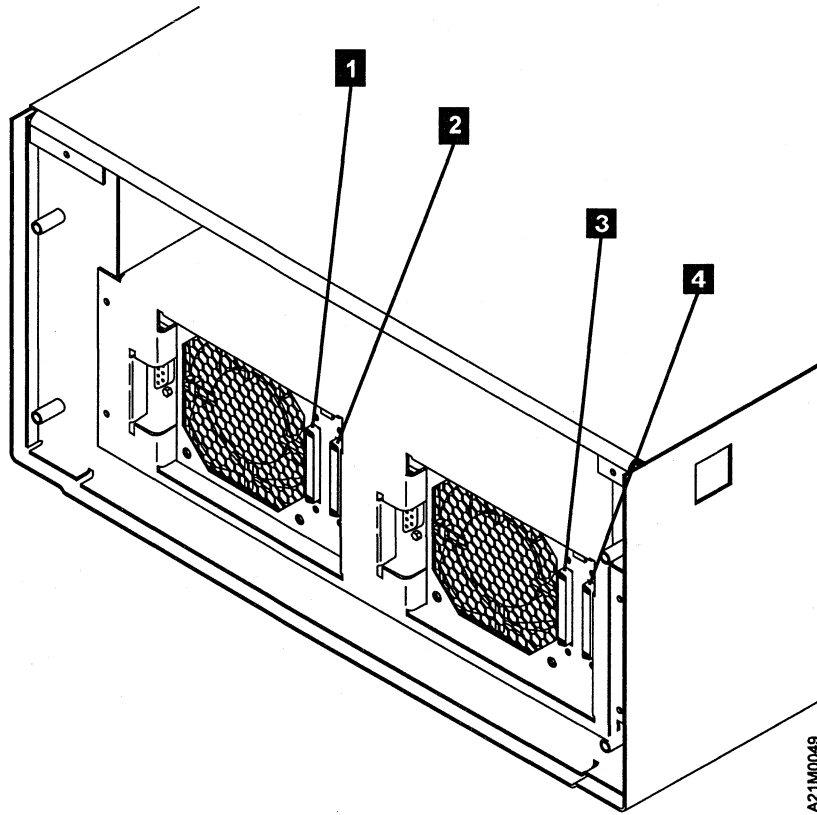

Figure 43. Rear View of Model C02 or C12
- 3. Ensure the SCSI Bus Jumper (P/N 49G6456) is connected to the rightmost SCSI connector on the back of tape drive 1, and to the leftmost SCSI connector on the back of tape drive 2. (See items **2** and **3** in Figure 43 on page 63).
- 4. If the Magstar MP is the first, or only, device in line connected to the initiator, connect the SCSI cable coming from the initiator to the leftmost SCSI connector on the back of the library. (See item **1** in Figure 43 on page 63).
- 5. If the Magstar MP is **not** the first device on the SCSI bus, connect the SCSI interface cable coming from the next closest device to the leftmost SCSI connector on the back of the library. (See item **1** in Figure 43 on page 63).
- \_\_\_ 6. If this is the last device on the SCSI bus, locate the SCSI interface terminator (P/N 61G8324) and attach it to the rightmost SCSI interface connector on the back of the library. (See item **4** in Figure 43 on page 63). If the library is **not** the last device on the SCSI bus, locate the SCSI interface cable to the next device, and connect it to the unused, rightmost SCSI interface connector on the back of the library. (See item **4** in Figure 43 on page 63).
- \_\_\_ 8. If one is installed, remove the SCSI Bus Jumper (P/N 49G6456) that connects the SCSI connector on the back of tape drive 1 to the SCSI connector on the back of tape drive 2. (See items **2** and **3** in Figure 43 on page 63).
- \_\_\_ 9. If tape drive 1 in the Magstar MP is the first, or only, device in line connected to the initiator, connect the SCSI cable coming from the initiator to the leftmost SCSI connector on the back of tape drive 1. (See item **1** in Figure 43 on page 63).
- \_\_\_ 10. If tape drive 1 is **not** the first device on the SCSI bus, connect the SCSI interface cable coming from the next closest device to the leftmost SCSI connector on the back of tape drive 1. (See item **1** in Figure 43 on page 63).
- \_\_\_ 11. If tape drive 1 is the last device on the SCSI bus, locate the SCSI interface terminator (P/N 61G8324) and attach it to the rightmost SCSI interface connector on the back of tape drive 1. (See item **2** in Figure 43 on page 63).
- \_\_\_ 12. If tape drive 1 is **not** the last device on the SCSI bus, locate the SCSI interface cable to the next device, and connect it to the unused, rightmost SCSI interface connector on the back of tape drive 1. (See item **2** in Figure 43 on page 63).
- \_\_\_ 13. If tape drive 2 in the Magstar MP is the first, or only, device in line connected to the initiator, connect the SCSI cable coming from the initiator to the leftmost SCSI connector on the back of tape drive 2. (See item **3** in Figure 43 on page 63).
- \_\_\_ 14. If tape drive 2 is **not** the first device on the SCSI bus, connect the SCSI interface cable coming from the next closest device to the leftmost SCSI connector on the back of tape drive 2. (See item **3** in Figure 43 on page 63).
- \_\_\_ 15. If tape drive 2 is the last device on the SCSI bus, locate the SCSI interface terminator (P/N 61G8324) and attach it to the rightmost SCSI interface connector on the back of tape drive 2. (See item **4** in Figure 43 on page 63).
- \_\_\_ 16. If tape drive 2 is **not** the last device on the SCSI bus, locate the SCSI interface cable to the next device, and connect it to the unused, rightmost SCSI interface connector on the back of tape drive 2. (See item **4** in Figure 43 on page 63).
- \_\_\_ 17. When the Magstar MP is correctly connected, all four SCSI connectors on back of the Magstar MP (see **1**, **2**, **3**, and **4** in Figure 43 on page 63) must have either a SCSI cable or a SCSI terminator attached.